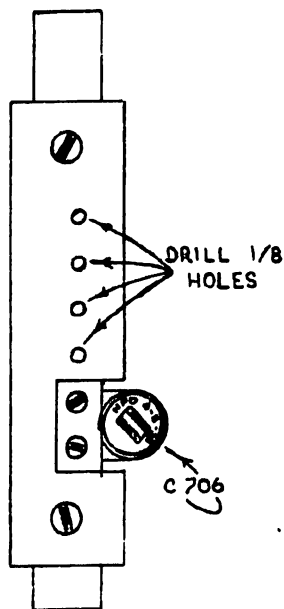

FIG. 1
- () 11. Mount the drilling template (from kit) on the rear edge of C.S. box, as shown in Fig. 1. If not already present, drill four 1/8 inch holes as indicated. Remove template.